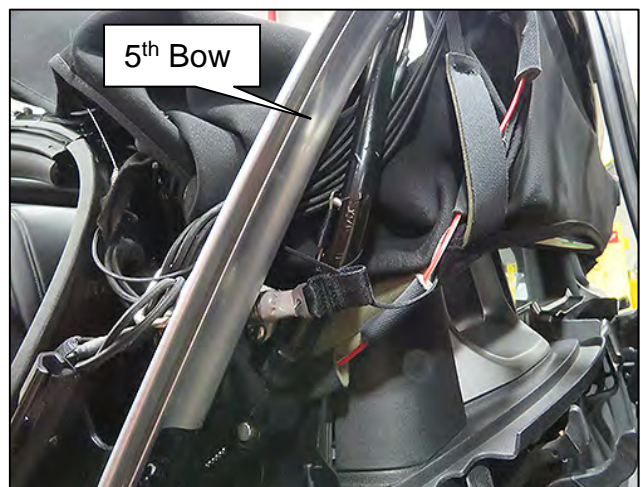

Figure 51
59. Lift the 5th Bow to the angle shown in Figure 51.